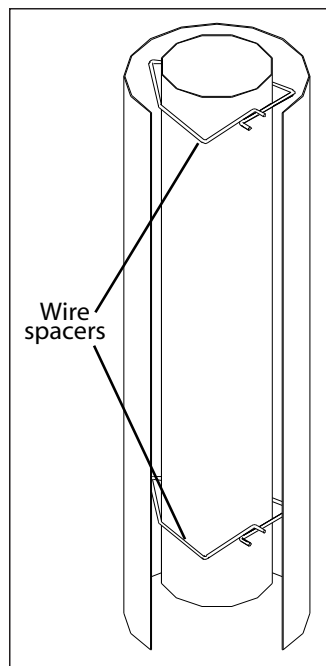

Figure 16: Wire Spacers.
8. Slide the Ø6⁵/₈" (16.25 cm) flex intake liner over the flex vent. Install four (4) wire spacers around the flex pipe. Ensure the wire spacers are positioned at either end of the pipes, and at each end of any elbows in the liners (refer to Figure 16 and 17).